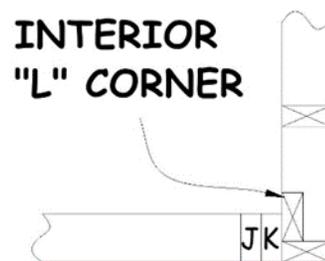

Figure 3-10. Interior L-Corner Configuration.
5. At corners and intersections, pay attention to whether a door will be built at that location. If so, make the room wall long and the door wall short, not the other way around. Include an "L-Corner" at the door end of the room wall and lay out the door plates so that the KJ pair abuts the L-Corner (see Figure 3-10). This allows for easy nailing through the "L" into the King stud. This configuration also provides a stronger corner that does not depend on nailing one stud into the edge of another stud. In addition, nailing the end of the long wall to the floor provides a stronger anchor than does toenailing the KJ pair to the floor.
2. Recheck wall intersections to determine which wall end should abut the side of the other wall (which wall will be the “long” wall and which will be the “short” wall). This may be dictated by an adjoining door. (See Section 3.5.5 and Figure 3-10 above.)
- c. Where a door will be attached at the end of a bathroom or bedroom wall, mark the end of the wall for a 2x4 L-corner oriented to allow nailing through the L-corner into the King stud of the door. (Similar to the 2x6 L-corners used in the exterior walls). See Figure 3-10.
- a. The short wall next to the tub/shower will typically be 36” long. As usual, layout studs on 24” centers starting at the intersecting wall. At the opposite end, layout a 2x4-2x6 L-Corner similar to that shown in Figure 3-10, with the 2x6 base of the L on the surface facing the tub. This will provide vertical blocking to which the shower flange can be attached, 31½” from the wall.